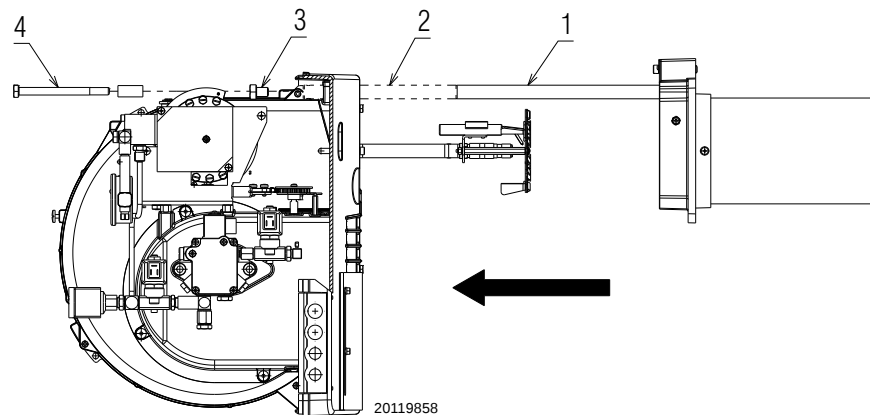

Fig. 4
- unscrew the two screws 3)(Fig. 4) at the end of the two slide bars 1);